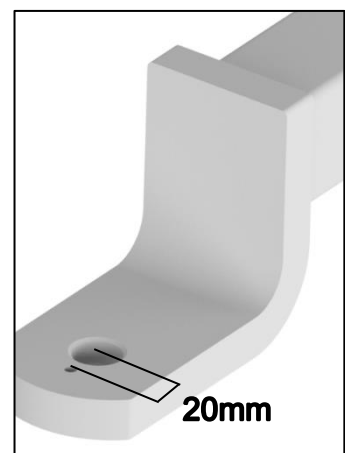

FIGURE 3 TOW BAR TONGUE
- Drill a 6mm hole at a radius of 20mm from the pin hole into the tow bar tongue for anti-rotation pin to locate into (FIGURE 3) at a depth of 10mm